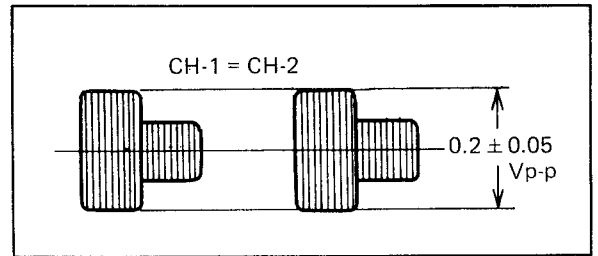

Fig. 6-36 Colour level
4. Adjust R2 (COLOUR LEVEL) on the record amplifier circuit during Record mode, then play back it, so that the level of TP-202 is $0.2 \pm 0.05 V_{p-p}$ as shown in Fig. 6-36.